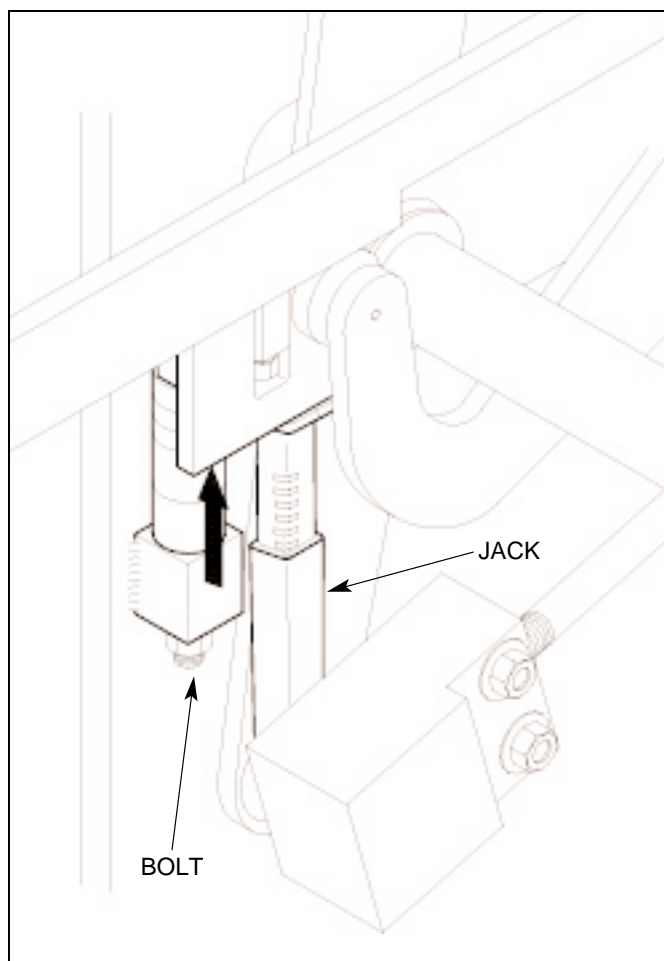

Figure 4.59 MEASURING COLUMN OF SPACERS
- 4.4.20 Loosen bolt of column spacers at all four corners (see figure 4.59).
- 4.4.21 Use a jack on all four corners to raise frame. Take spacers out on all corners (see figure 4.59).
- 4.4.22 Now, insert a column of spacers **8 3/4" [222mm]** high between the side frame supports and the pallet feeder supports (see figure 4.59).